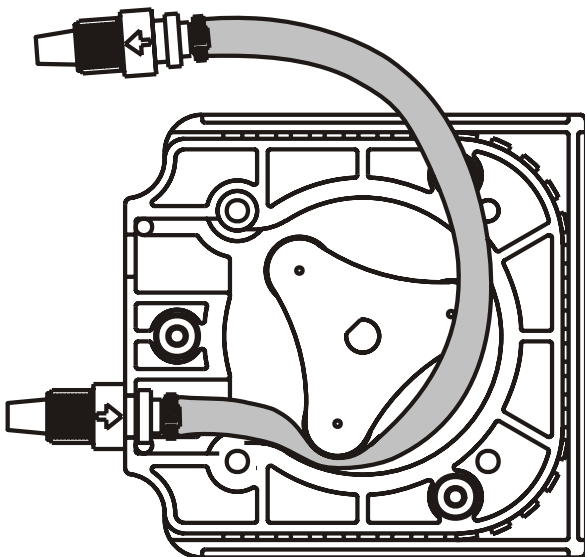

FIG. 6.2
- 6.3.2.1 With the pump running, insert the inlet (suction) side of the Pump Tube fitting into the lower retaining slot in the pump head. Fig. 6.2.